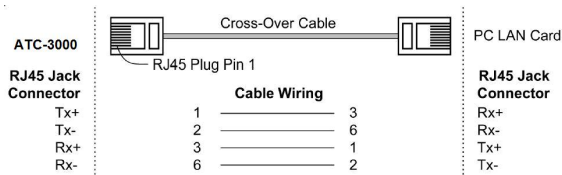

Figure 2
■ ATC-3002 10/100 Port t connect to Ethernet card use coss-Through Cable as Figure 2.